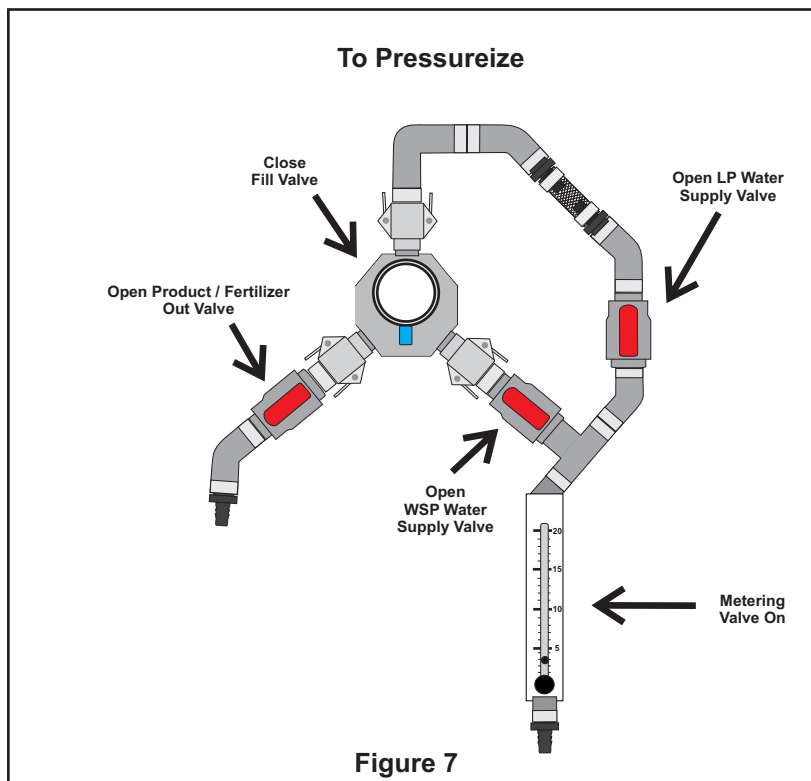

Figure 7
Step 4 - Once full, turn all the water supply valves to the on position to pressurize and check for leaks. Tighten any leaking parts before proceeding. Figure 7 displays various valves on the head in the on position. The metering valve and the (Optional) shut off valves from the irrigation mainline connection must also be open to supply pressure to the tank.